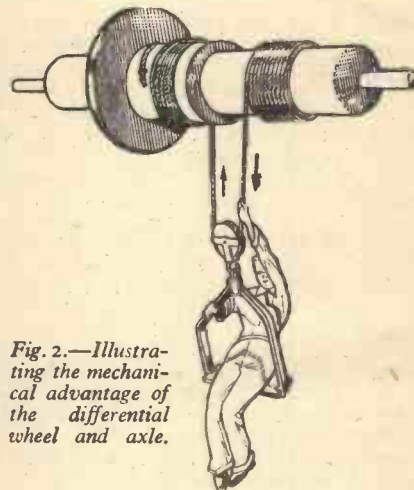

Fig. 2.—Illustrating the mechanical advantage of the differential wheel and axle.
**The Problem:** A man weighing 130 lb. sits in a seat weighing 14 lb. (Fig. 2), which is suspended from a smooth pulley supported by the two parallel portions of a rope which is coiled in opposite directions round the two